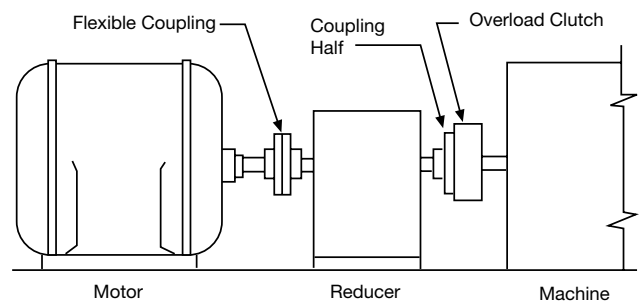

Figure 9
The clutch should always be located as close as possible to the source of an overload condition. Figures 9 through 12 indicate both preferred and not preferred locations for mounting an ORC Series, Model S Overload Release Clutch.
- a. Figure 9 shows the preferred location for mounting in a direct drive application. The clutch is mounted on the low speed side of the reducer, and transmits power from its housing, through its rotor to the driven shaft.